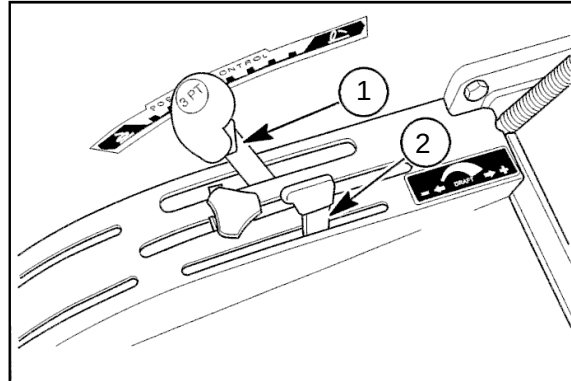

Figure 2-51
Position control is obtained by placing the draft control lever (2) in Figure 2-51, all the way forward and then moving the outer (Position) control lever (1) in Figure 2-51, to position the equipment as desired. The outer (Position) lever is used to set the desired working height or depth.
1. Set the position control lever (1) in Figure 2-51, at the maximum desired implement depth. The hydraulic system will not lower the implement below the pre-selected depth. (This will also prevent "diving" which may be encountered with light equipment, such as a rear blade, when grading or backfilling.)
2. Position to rearward the draft control lever (2) in Figure 2-51, for the maximum draft load (pull) desired.
1. Set the position control lever (1) in Figure 2-51 (See page 2-27), to the highest position.